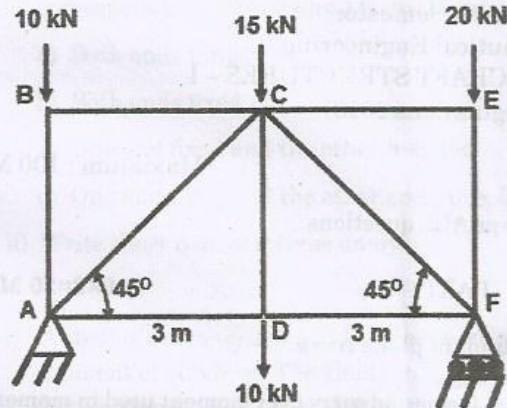

Fig. 11 (a)
11. a) Determine thin forces in the members of the truss shown in the Fig. 11(a).